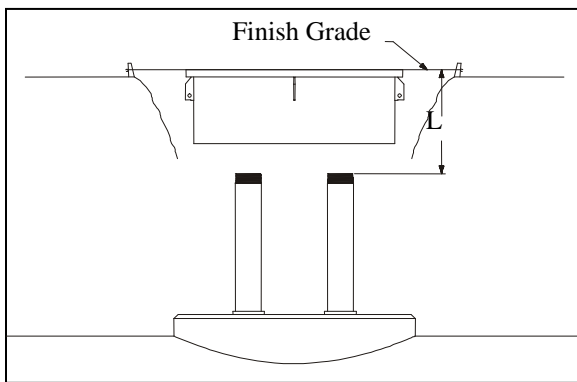

Figure 2
2. Set multi-port manhole assembly (skirt, ring, and cover) to the final grade position. (See Figure 2.)
Note: Add an extra 3-1/4" when using an OPW FSA-400 Face Seal Adaptor, recommended for Composite Base. Add an extra 1 3/4" when using the FSA-400-S Face Seal Adaptor, recommended for Cast Iron Base. (See Figure 2.)